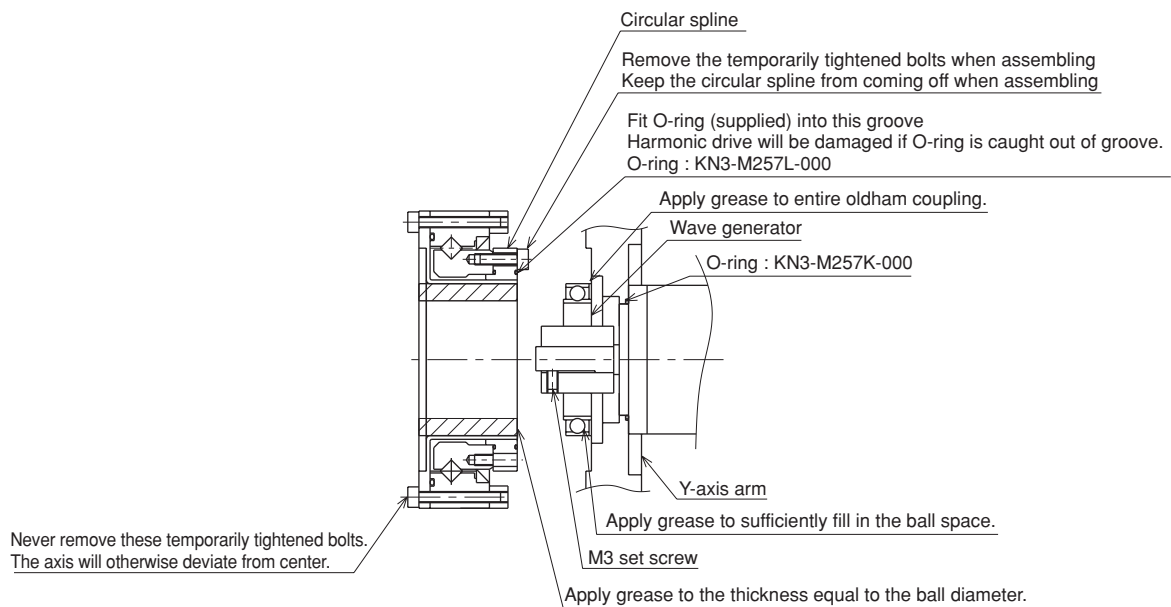

Fig. 5-10
- 8) Remove the wave generator from the motor shaft. The wave generator is secured with an M3 set screws (2 pieces). (See Fig. 5-10.)
REMOVE ONLY THE FOUR BOLTS SHOWN IN FIG. 5-10 AT THIS POINT. NEVER REMOVE THE BOLTS ON THE OPPOSITE SIDE. IF THEY ARE REMOVED, THE HARMONIC DRIVE AXIS MAY DEVIATE FROM THE CENTER CAUSING TROUBLE.
See Fig. 5-10 for applying grease properly.
- 18) Fit the wave generator onto the motor shaft and fully insert it against the motor. Then, apply small amounts of "Screw Lock" to the M3 set screw (2 piece) you removed earlier and tighten it to secure the wave generator. (See Fig. 5-10.)